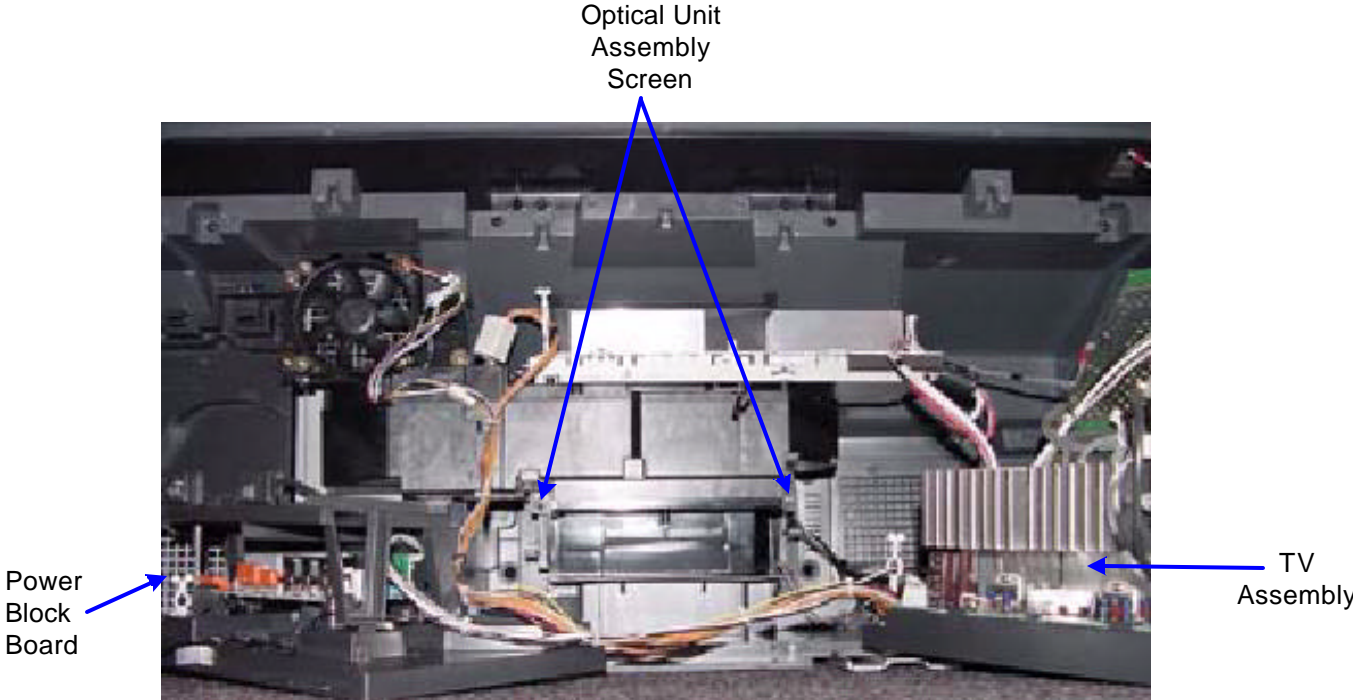

FIGURE 22-5 - OPTICAL UNIT SCREWS EXPOSED
e) Loosen the two screws under the optical unit (Figure 22-5). The screws are part of the optical unit.